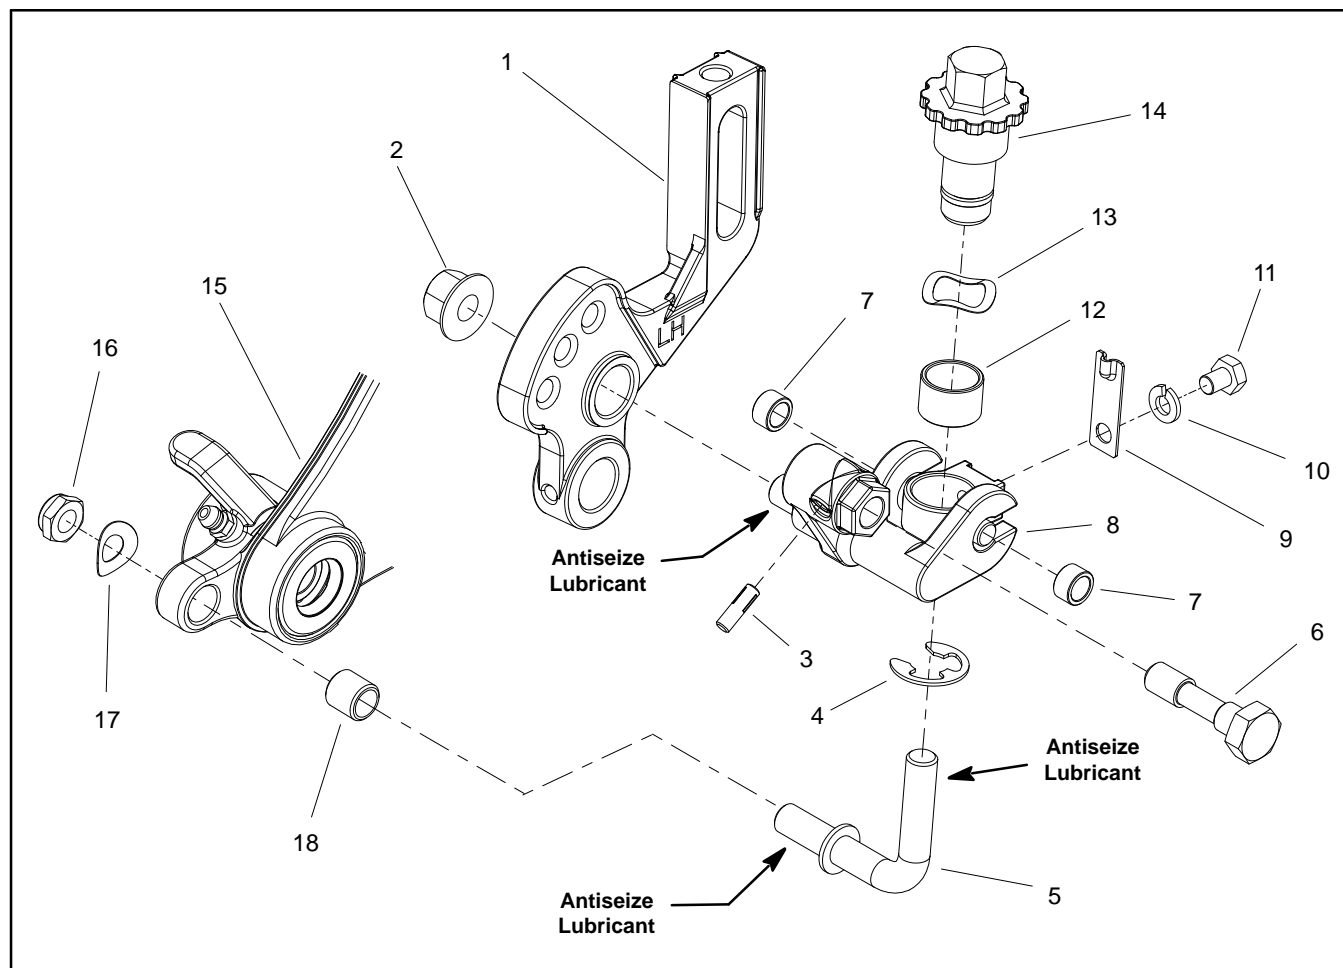

Figure 30
Disassembly (Fig. 30)
2. Remove flange nut (item 2) that secures lift arm to HOC groomer arm. Remove lock nut (item 16) and spring washer (item 17) that secure lift arm to groomer plate. Loosen lock screw (item 6) completely.
4. Disassemble lift arm using Figure 30 as a guide.
NOTE: Right and left side HOC groomer arms (item 1) and lift arm assemblies (item 8) are different; other components shown in Figure 30 are the same on both sides of cutting unit.
Assembly (Fig. 30)
1. Assemble lift arm using Figure 30 as a guide.
2. Apply antiseize lubricant to threads of groomer lift rod (item 5) and lift arm assembly stud (item 8).
3. Install lift arm onto cutting unit. Secure with flange nut (item 2) and lock nut (item 16) with spring washer (item 17).
4. Secure groomer in raised or lowered position with lock screw (item 6).